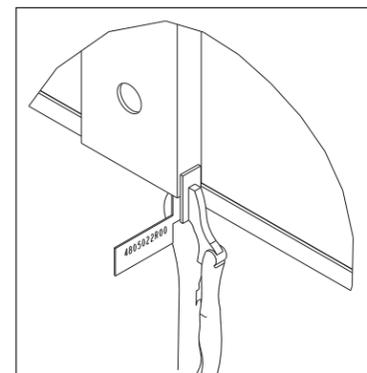

**Figure 12:** Measure and Mark First Panel Location
1. Measure and mark the correct panel location. Refer to **Figure 12**.